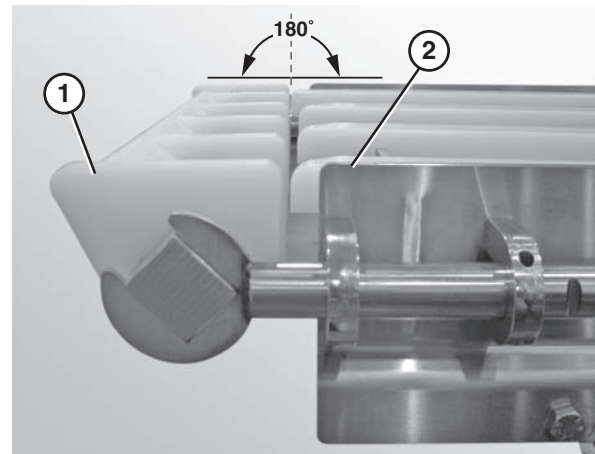

Figure 22
3. Ensure that the nose bar pucks (**Figure 22, item 1**) are in line with the conveyor frame (**Figure 22, item 2**).